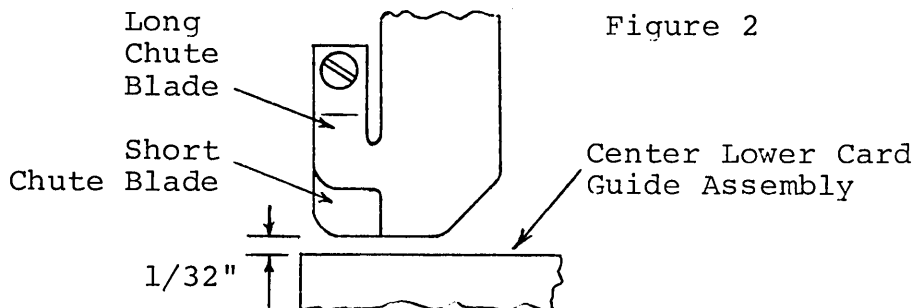

Figure 2
- A. Position chute blade for 1/32" clearance to the center lower card guide as in Figure 2.